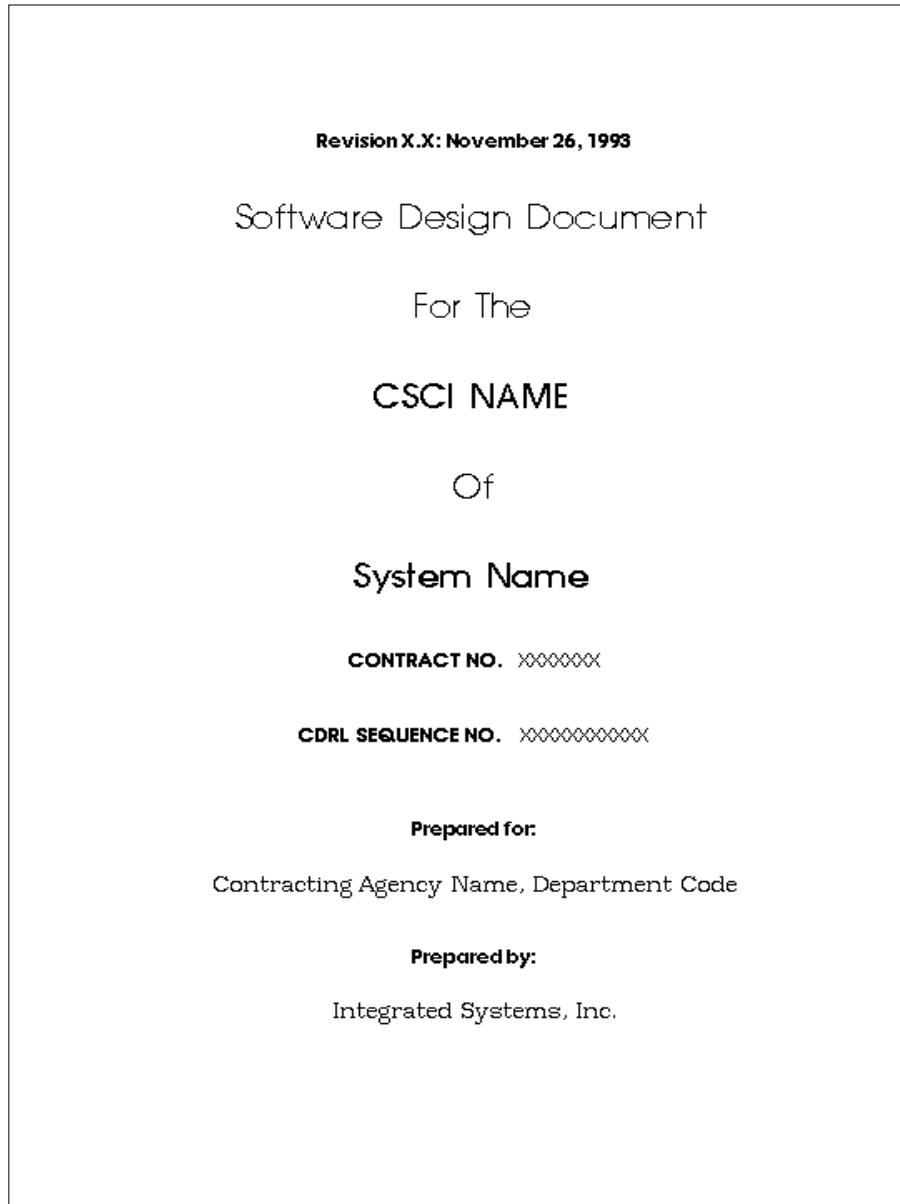

FIGURE C-1 Generic Title Page
The MML file that you have generated (in this case, `controller_logic_mil.mml`) includes a generic title page that appears as shown in Figure C-1 after it is imported into FrameMaker. If you want to change the data on the title page, you can accomplish this in three different ways:
- Using a text editor you can edit the `fmmil.tpl` data. Figure C-2 shows the data in the `fmmil.tpl` file that produces the title page shown in Figure C-1. You should make these changes to `fmmil.tpl` *before* you generate the document from SystemBuild. All subsequent documents generated by DocumentIt using `fmmil.tpl` will continue to have your new title page (until you change the contents of `fmmil.tpl` again).
- Using a text editor you can edit the MML output file you have just generated. Figure C-2 shows the data in the example file `controller_logic_mil.mml` that produces the title page shown in Figure C-1. If you regenerate the document, you will have to edit this file again.